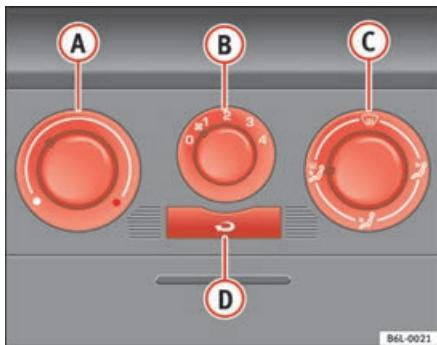

Fig. 92 On the dash panel: Heater controls
- Turn the temperature selector ⇒ fig. 92 ① anti-clockwise.
- Turn blower switch ⑦ to speed settings 1-4.
- Set the airflow to the desired direction using air distribution control ③.
- Turn the temperature selector ⇒ fig. 92 ② A clockwise to select the required temperature.
- Turn the temperature selector ⇒ fig. 92 ② A clockwise to the maximum temperature.
- Turn the blower switch ⑧ B to setting 4.
- Set air distribution to ⑨.
- Close outlet ③.
- Open and turn outlet ④ towards side windows
- Turn the temperature selector ⇒ fig. 92 ② A to the heating zone.
- Turn blower switch ⑦ to speed settings 2-3.
- Close outlets ③.
- Open and turn outlets ④ towards side windows